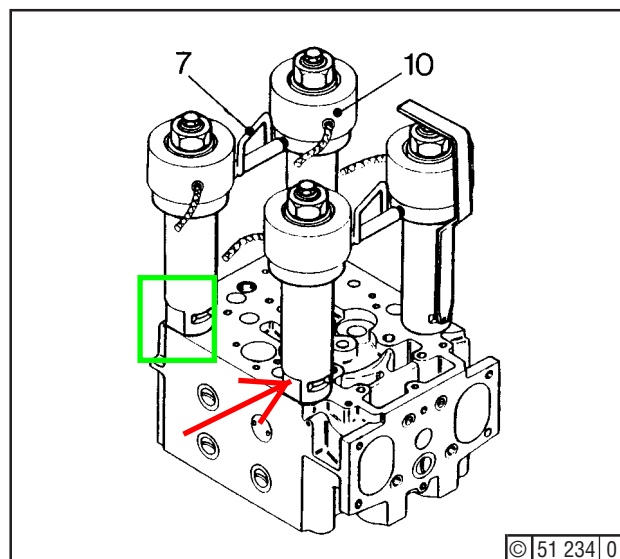

Fig. 5
Position bushes (11) (two pairs - fig. 5) **with yoke (7)** and tool (19). **Make sure that no bush is in contact with an adjacent cylinder.** Fit washers (9) and screw together with hex. nuts (8) until tool piston is flush with cylinder. **Back nuts (8) through one turn.**